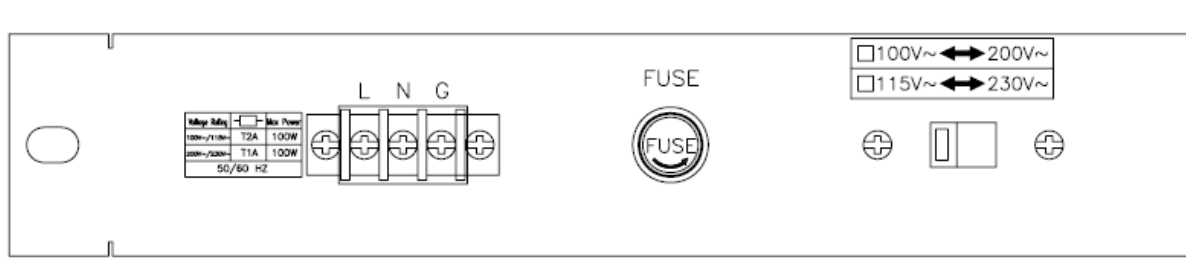

Figure 5-5 5D36-24 Fuse Holder Location
- Please make sure the lock screws are firmly hand-tightened, use a screwdriver only for the removal of screws. Figure 5-5 shows the rear panel of load. The GPIB address of the load is set on the front panel.